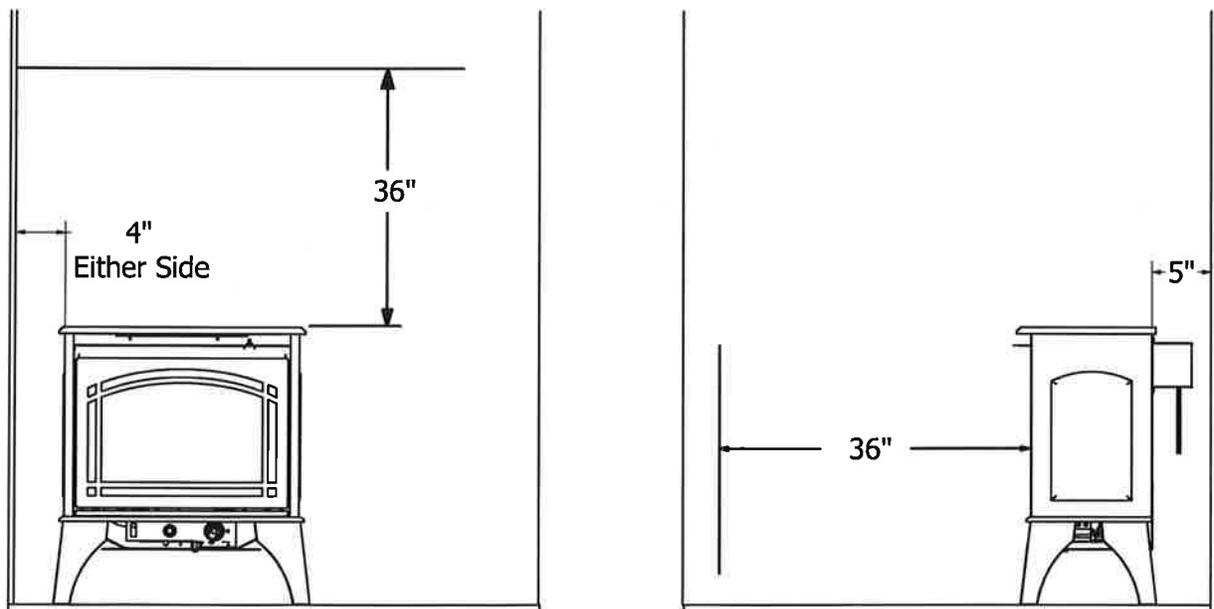

Fig. 6 - Minimum Clearance to Combustible Material
IMPORTANT: Maintain the minimum clearances shown in Figure 6 on page 11. If you can, provide greater clearances from floor, ceiling and joining wall.
- A. Clearances from the side of the heater cabinet to any combustible material and wall should follow diagram in Figure 6.
The installer must supply an external regulator for liquid propane. The external regulator is provided by the gas supplier for natural gas. The external regulator will reduce incoming gas pressure. You must reduce incoming gas pressure to between 11 and 14 in. of water column for propane and between 5 and 10.5 in. of water column for natural gas. If you do not reduce incoming gas pressure, heater regulator damage could occur. Install external regulator with the vent pointing down as shown in Fig. 6. Pointing the vent down protects it from freezing rain or sleet.